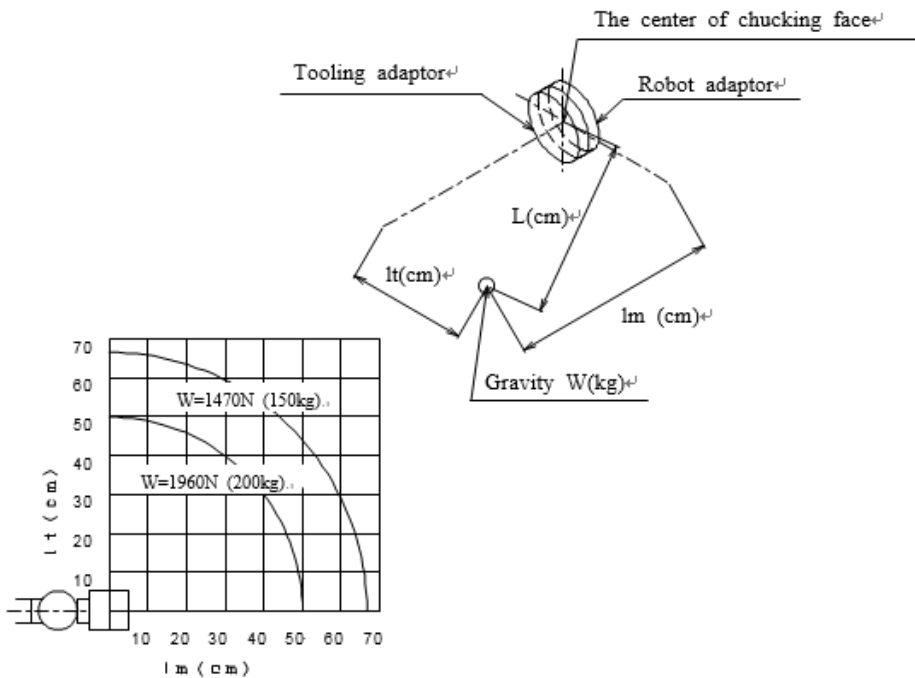

Fig. 3. An example of rated load definition ( $G_R = 1.5$ )
**⚠ WARNING** Rated load, rated moment, and rated torque of the ATC are dynamic specifications for the unit being mounted on a robot. Ensure that the maximum load never exceeds these values during normal operations taking into account the acceleration factor and inertia during acceleration/deceleration by the robot. Figure 3 shows the meanings of rated load, rated moment and rated torque.